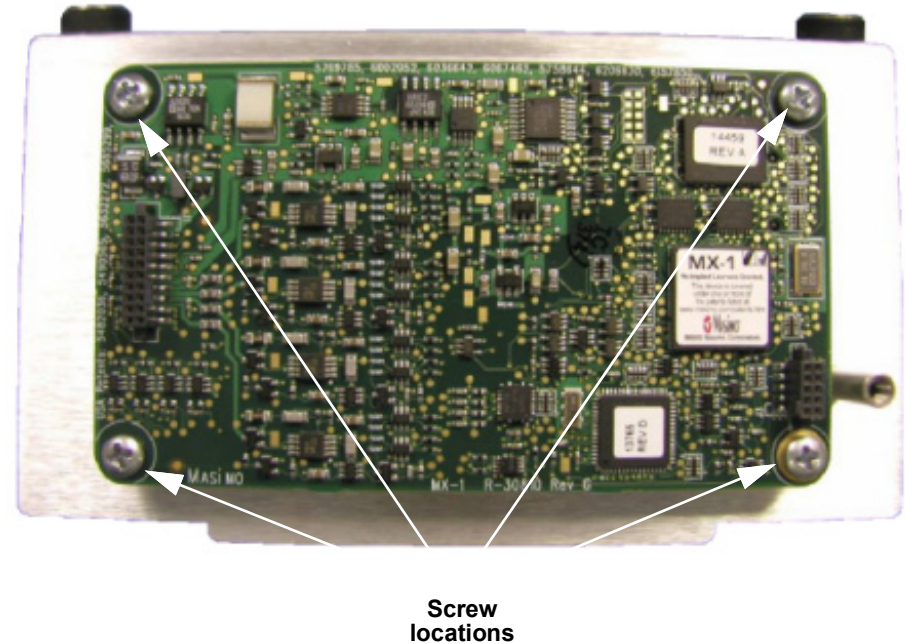

Figure 8.67—SpO2 PCB screw locations
2. Attach the SpO2 module to the bracket using four new screws (REF F15); torque to 4.0 in-lb (see Figure 8.67 on p. 276).